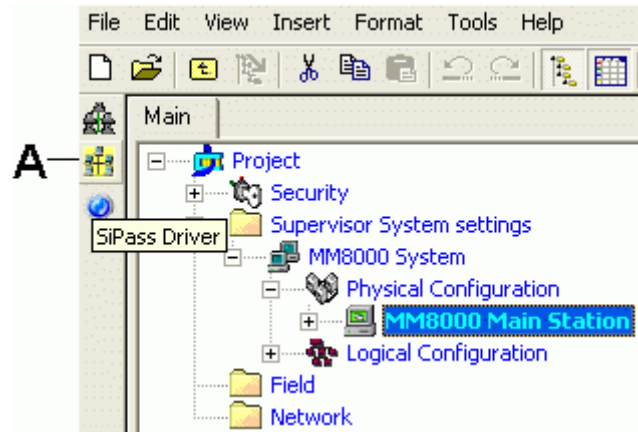

Fig. 1 Adding the SiPass Driver (A)
The Fig. 1 below illustrates how to add the SiPass driver to the MM8000 configuration:
2. Click the button A to add the driver (see Fig. 1).